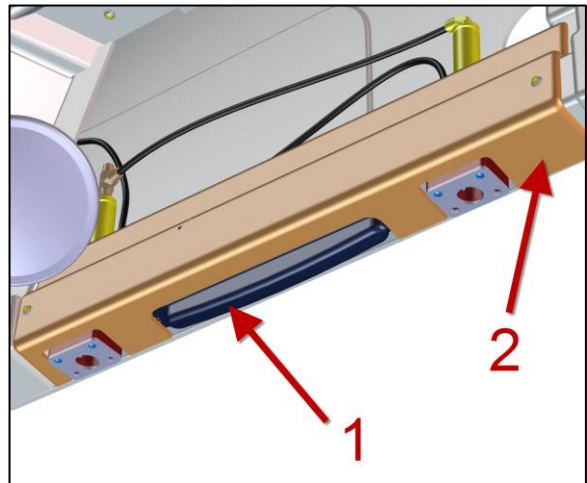

Figure 7
5. Install the new entrance door upper moulding #3210118 (item 1, Figure 7). Do not install screws yet.
11. Install light #830008 with two screws #500854 (item 1, Figure 7).
12. Install new entrance door upper moulding #3210118 (item 2, Figure 7).